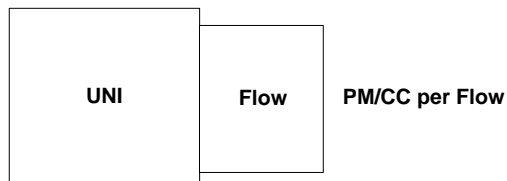
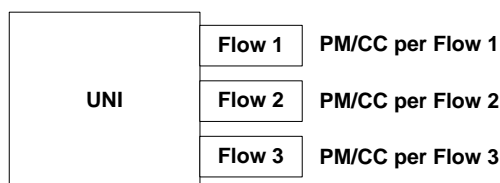
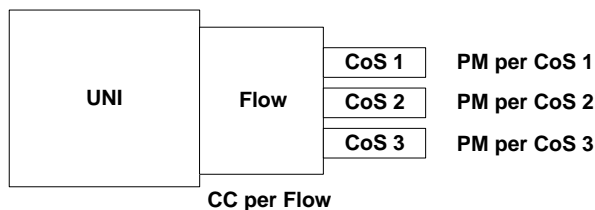

Figure B-3. One Flow per UNI
Figure B-4. Multiple Flows per UNI
Figure B-5. One Flow and Multiple CoS (Service Instances) per UNI
Figure B-3, *Figure B-4* and *Figure B-5* illustrate different combinations of UNIs, flows and service instances. Each UNI contains at least one flow, which contain at least one service instance.
- In the one flow per UNI case (*Figure B-3*), the PM and CC are transmitted once.
- In case of multiple flows per UNI (*Figure B-4*), PM and CC are transmitted three times.
- In case of one flow and multiple CoS (Service Instances) per UNI (*Figure B-5*), the PM is transmitted three times and the CC – once.